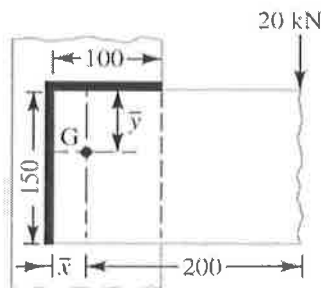

Fig. 2
9. A bracket, as shown in Fig.2. carries a load of 20 kN. Find the size of the weld if the allowable shear stress is not to exceed 80 MPa .